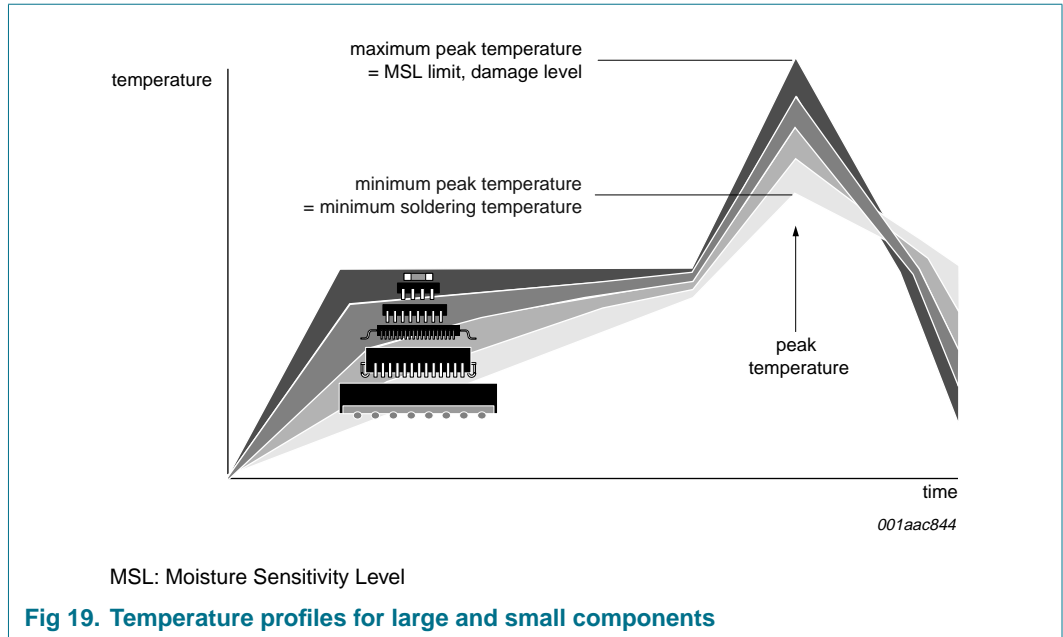

Fig 19. Temperature profiles for large and small components
- Lead-free versus SnPb soldering; note that a lead-free reflow process usually leads to higher minimum peak temperatures (see Figure 19) than a PbSn process, thus reducing the process window
Studies have shown that small packages reach higher temperatures during reflow soldering, see Figure 19.